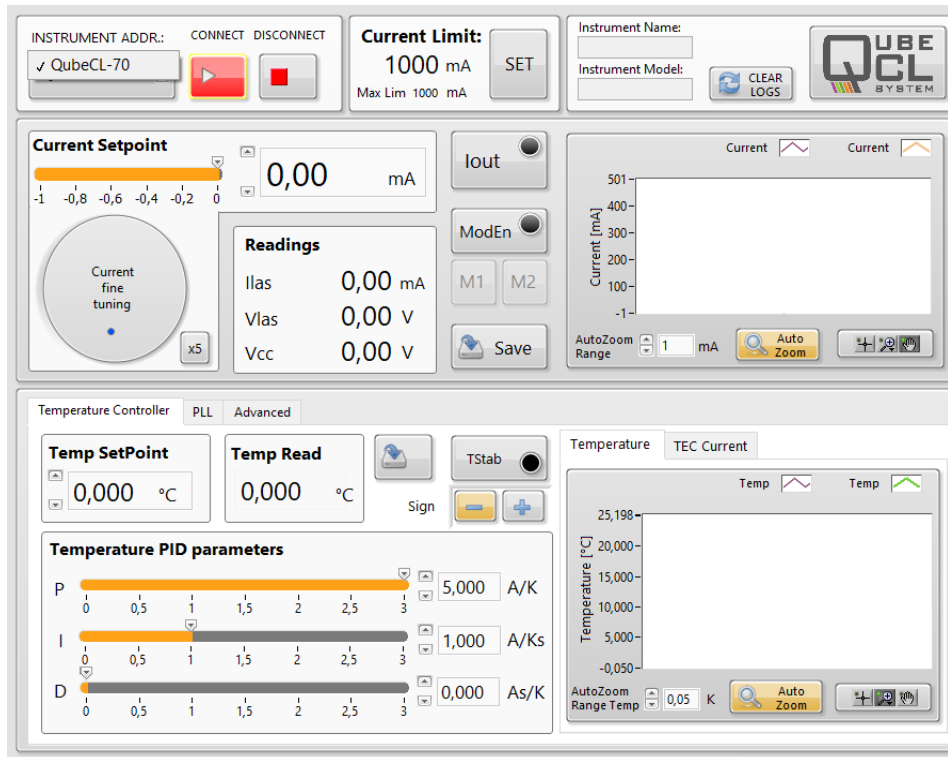

Figure 2: Graphical view of the QubeCL control software: instrument selection
From the folder "QubeCL_CONTROL:vX.X" that you have copied into your computer (see Section "QubeCL control software installation") you can launch the executable program "QubeCL_Control_vX.X.exe". A graphical interface will appear, as shown in Figure 2.
- A Control Panel as the one shown in Figure 2 appears